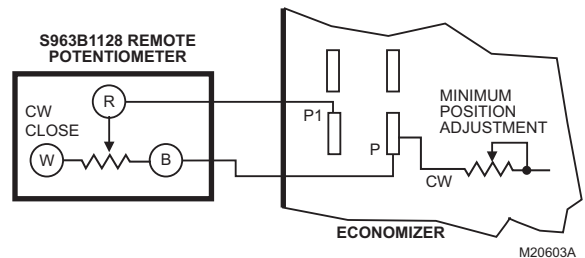

Fig. 24. S963B1128 Remote Potentiometer used with logic module for remote damper control.
4. Ensure that either the factory-installed jumper is in place across terminals P and P1 or, if remote damper position is required, that it is wired according to Fig. 24 and turned fully clockwise.